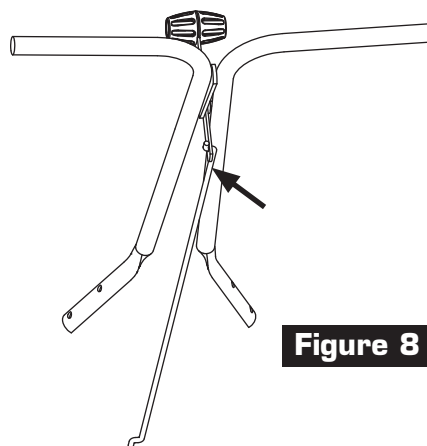

Figure 8
8. Install Linkage to Lever as shown in Figure 8.